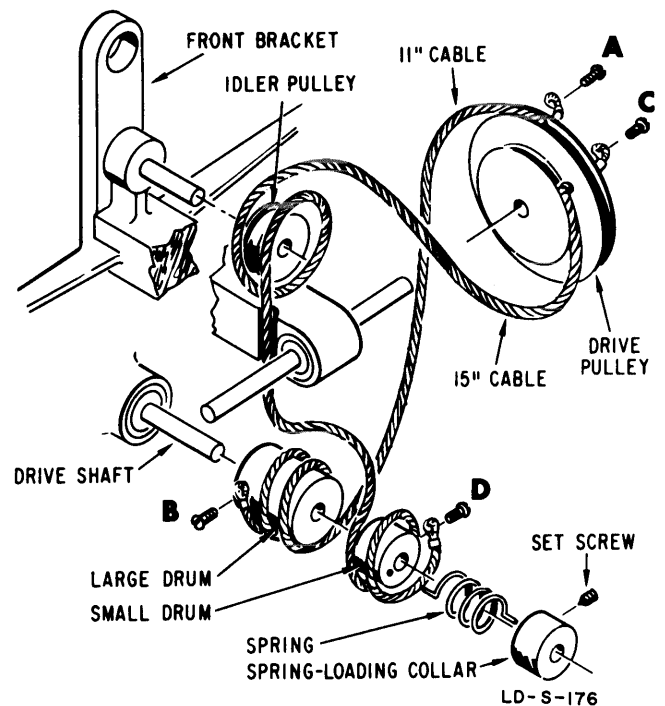

Figure 4-8. Exploded Rear View of Drive Cabling
- a. Remove old dial cable and screws at A, B, C, and D (see Figure 4-8). Loosen setscrew in spring loading collar on rear of drive shaft.
- c. Set instrument tuning dial to high frequency limit and rotate tuning capacitors so plates are open full. Fasten cable at A and thread as shown in Figure 4-8 with other end fastened by screw at B on large drum.
- e. Revolve spring loading collar counterclockwise (viewed as shown in Figure 4-8) until slack is removed from drive cables. Rotate an additional half turn counterclockwise to tighten spring and tighten setscrew.